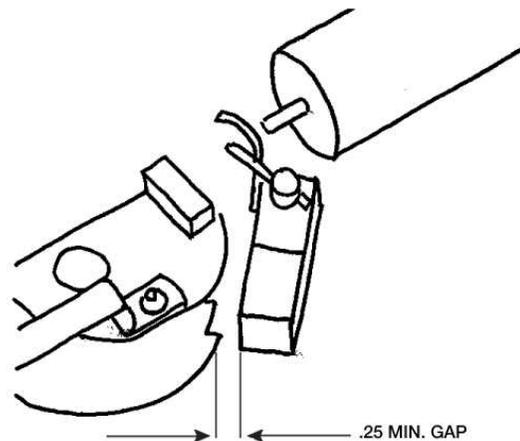
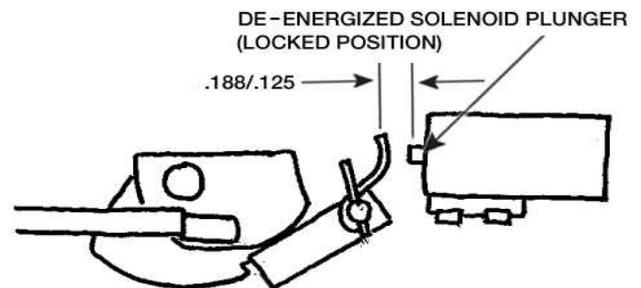

Figure 6
Figure 7
2. **Solenoid Adjustment:** Fully actuate the emergency linkage so that the lock pawl falls into and is retained by the emergency cam notch. Position the unlock solenoid so that the lock pawl is released by the emergency cam when the solenoid is energized. A minimum of .25" clearance must exist between the lock pawl and the major diameter of the teeter cam when the solenoid is in the energized position. See Figure 6. Return emergency handle to un-actuated position and ensure that with lock pawl in locked position and solenoid de-energized, there is a .125 - .188 gap between the lock pawl and solenoid plunger See Figure 7.